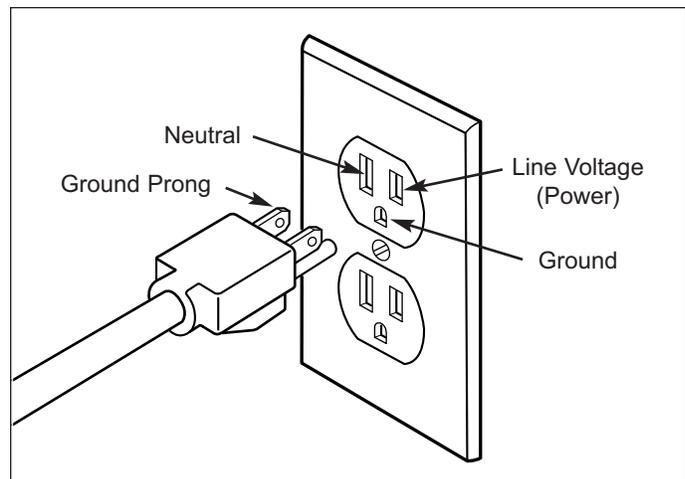

Figure 2-1. Grounded Receptacle
- A properly grounded 3-prong receptacle (See Figure 2-1).